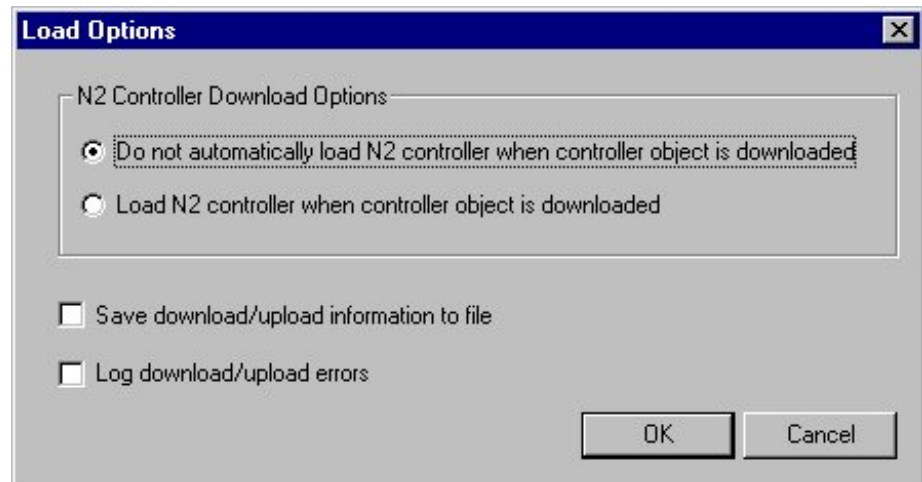

Figure 11-6: Load Options Dialog Box
1. Select Options on the Tools menu. The Load Options dialog box appears (Figure 11-6).